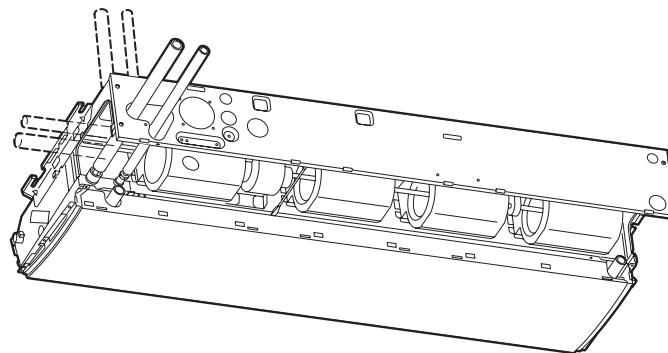

Fig. 3-105
- \* If the drain hose is routed through the left side, refer to Fig. 3-105, and follow the procedure above to install the hose. Re-attach the rubber stopper that was earlier removed onto the right side.